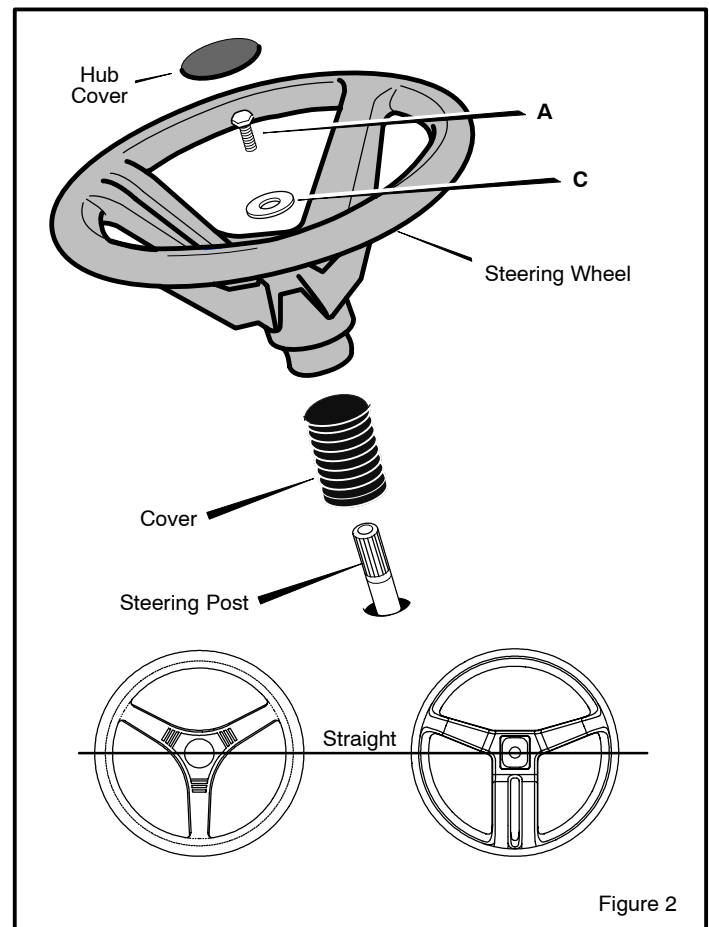

Figure 2
2. Slide the **cover** over the **steering post** (Figure 2).
NOTE: Before attachment of the steering wheel, make sure that the front wheels point forward and are straight. For proper alignment of the steering wheel, see Figure 2.